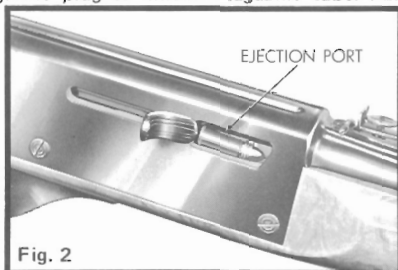

Fig. 2
**TO SINGLE LOAD AND COCK RIFLE** — Push safety rearward to SAFE position. Turn ejection port in receiver upwards and drop cartridge into recess against closed action (Fig. 2). Pull bolt handle back quickly and release. Cartridge will then drop into action and load forward into barrel chamber.